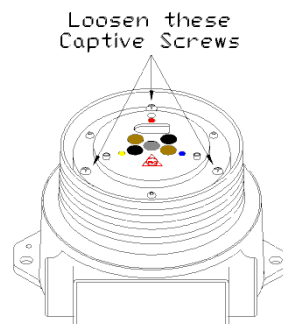

Figure 2-7
- Loosen the three captive screws on the Detector Module “puck” (see Figure 2-7).